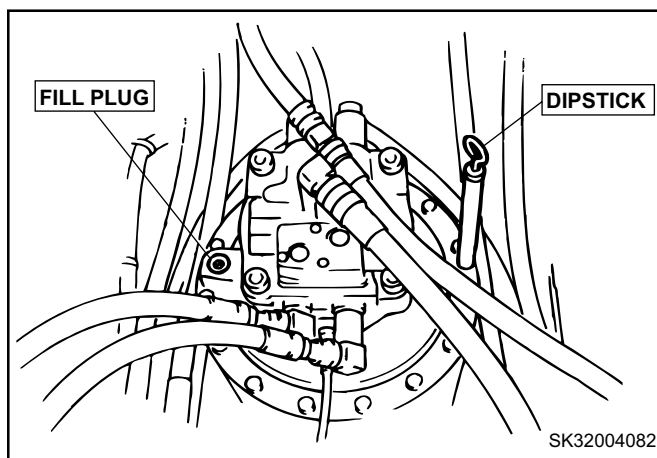

FIGURE 4.36B
1. Locate the dipstick on the side of the swing motor. See Figure 4.36B. Pull dipstick, wipe clean and reinsert all the way in.
3. If necessary to add oil, remove plug from oil fill port and fill to full level with proper oil. See Figure 4.36B and refer to page 4-11 for oil specifications.
- d. Fill through fill port using proper oil. See Figure 4.36B and Refer to page 4-11 for oil specifications.